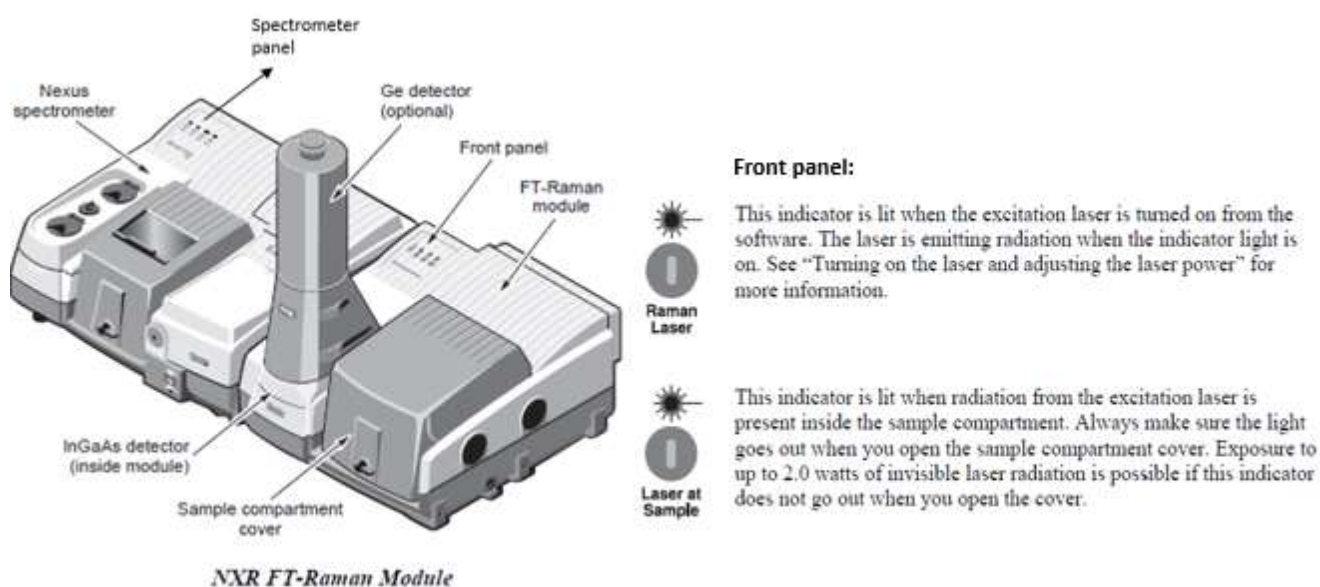

Figure 1. Instrument main parts.
- **The instrument** (both the Nicolet XR and FT Raman module) **should be on** as indicated by the green light (power) in the spectrometer and front panels (Figure 1). If the power is off, look for technical assistance. There is a specific order to turn the instrument on and several tests that need to be done. The instrument has two lasers, a HeNe laser located in the spectrometer and a Raman (excitation) laser located in the Raman module. The HeNe laser is always on, but the Raman laser is only turned on when the sample is analysed.
To prevent any danger from the laser light always remember to keep the **sample compartment lid closed** while a sample is running, **and only open the lid** once the Raman laser has been turned off using the software. If the laser is off the Raman laser light in the front panel is off too. If the lid is closed both lights (Raman laser light and laser at sample light) will be on (Figure 1) .